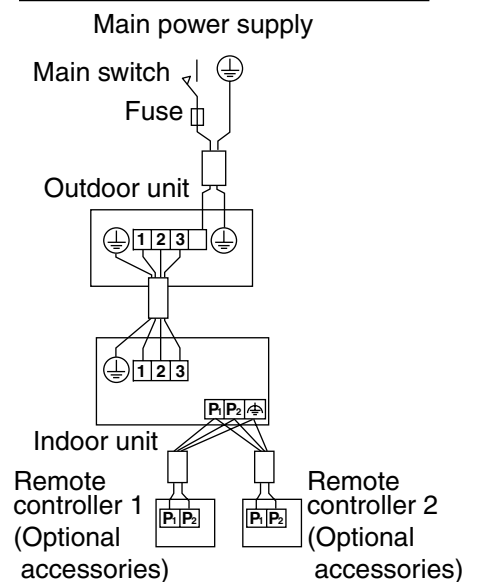

Fig. 28
- **2 remote controllers control** : 2 remote controllers control 1 indoor unit. (Refer to Fig. 28)